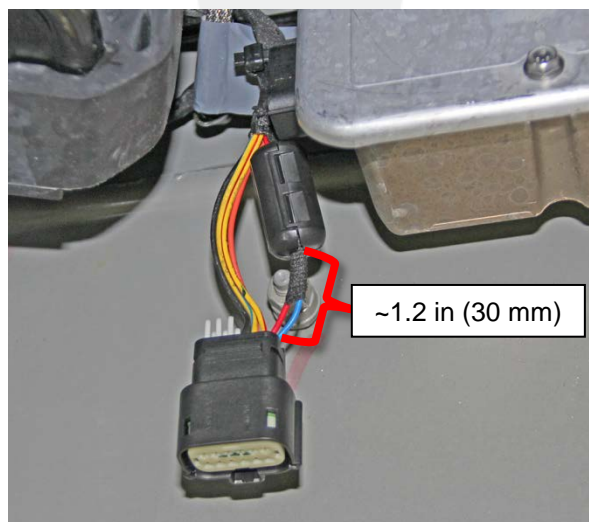

Figure 10
12. Install a ferrite bead onto the wrapped wires so that the closest side is approximately 1.2 in (30 mm) from the connector (Figure 10).